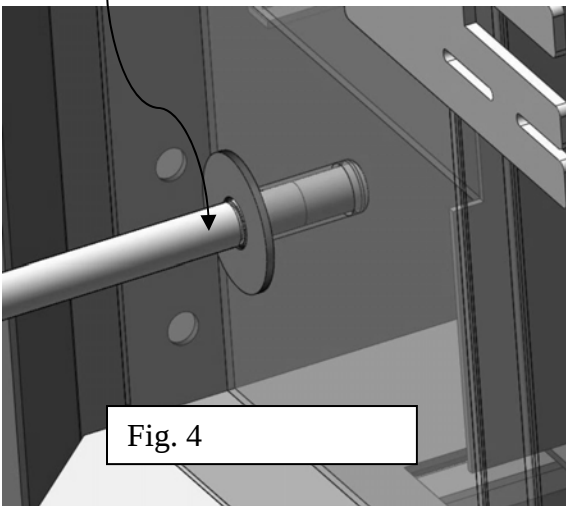

Fig. 4
- ❖ The Bronze bushings are pressed into the fuel stirrer bushing housing. They might be hard to remove and you want to be careful not to break the welds that hold the bushing housing onto the firebox structure. If you are using the bushing driver kit, take the 9/16” x 12” long driver and tap the bearings out toward the inside of the firebox. (See fig. 4)